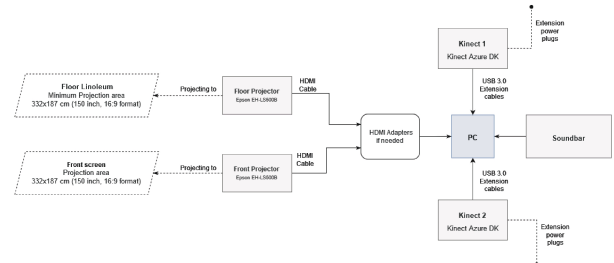
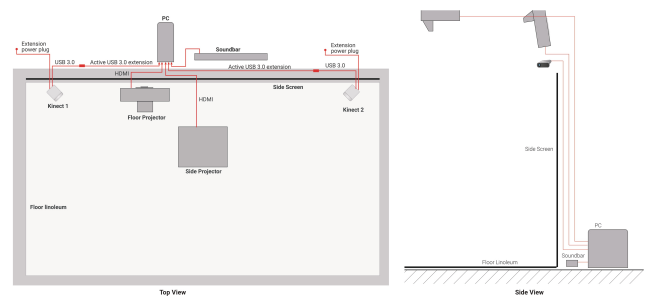

Figure 13. Flow Diagram for the Setup Schematics.
Figure 14. Side View of the Setup Schematics.
- Fig 13 & Fig 14 shows the schematics of all the connections required.